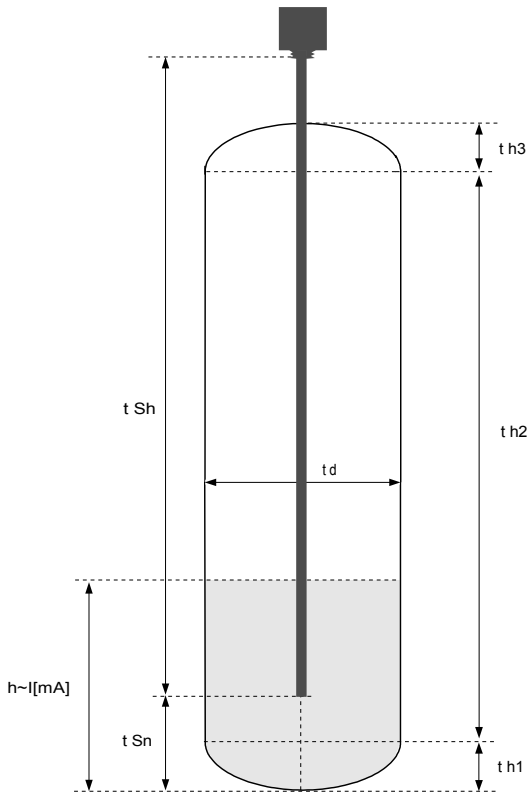
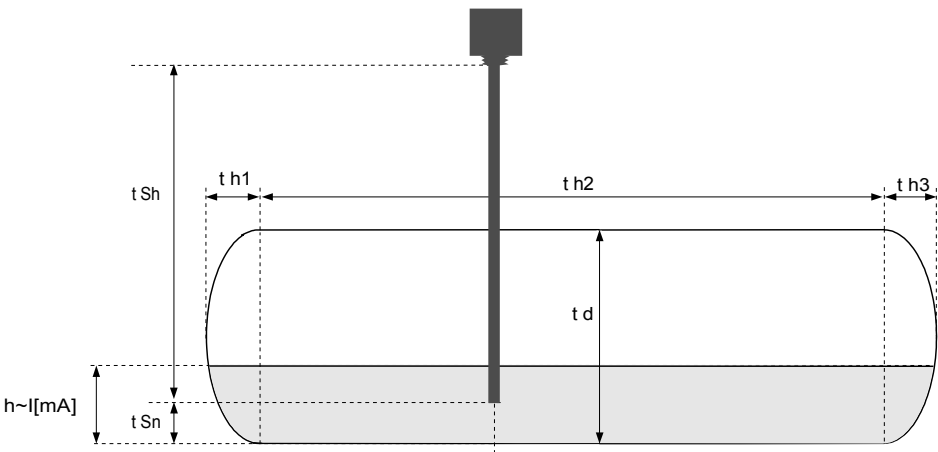

Figure 7.1 Parameters of cylindrical tank in vertical position.
Figure 7.2 Parameters of cylindrical tank in horizontal position.
**„t h1”**, **„t h2”**, **„t h3”**, **„t d”** - the parameters defining shape of cylindrical tank (Figure 7.1 and Figure 7.2).
„**t Sn**”, „**t Sh**” - parameters defining the length and position of the sensor used to measure level of liquids, gases or solids in the tank (Figure 7.1, 7.2).